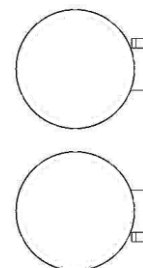

FIGURE 6
10. Unscrew the remaining hose clamps and feed the tail end of the clamp through the clips on the inside of the heatshields. The larger clamps are to be placed at the rear of the heatshield so they clamp over the muffler assembly. The screw end of the hose clamp should be accessible for tightening but not visible when the heatshields are mounted to the pipes, see Figure 6.